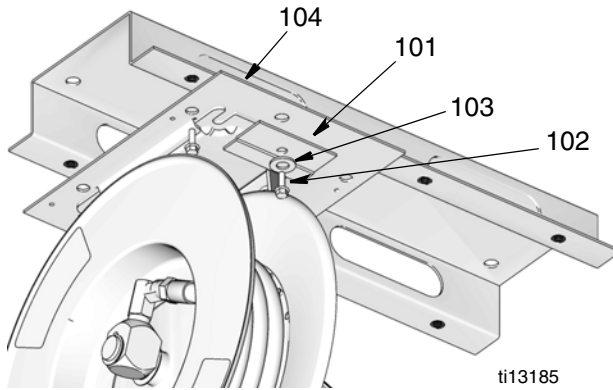

FIG. 14
3. Remove capscrew (102), washer (103) and hold down plate (101). Then slide hose reel out of base plate (104) (FIG. 14).